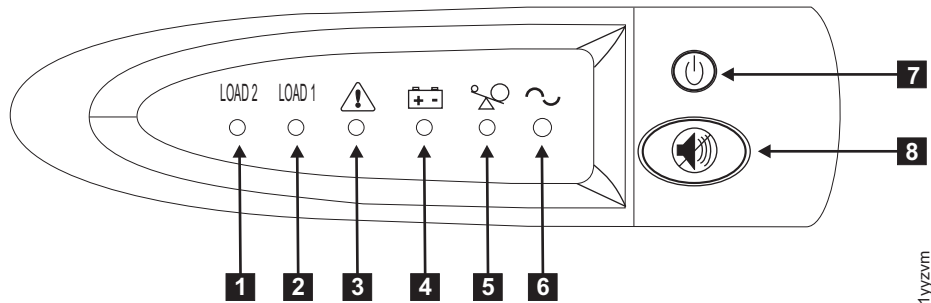

Figure 16. 2145 UPS-1U front-panel assembly
8. Press and hold the on/off button (**7** in Figure 16) for approximately five seconds. You might need a pointed device, such as a screwdriver, to press the on/off button. The front panel indicators cycle through a startup sequence while the 2145 UPS-1U conducts a self-test.